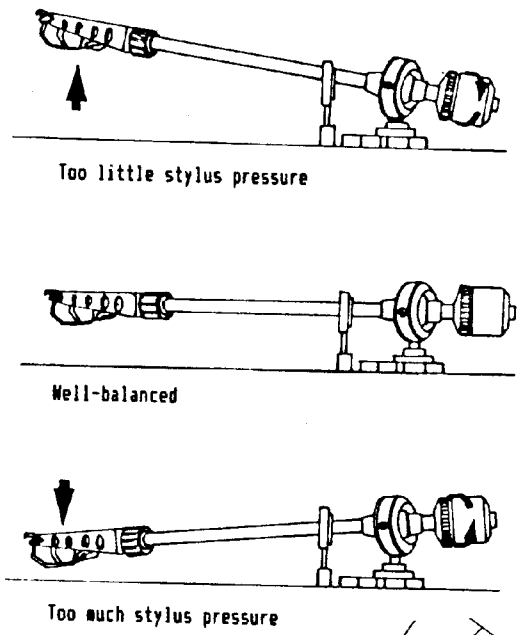

Fig. 3
- 4) Adjust for balance by turning the counterweight either clockwise or counterclockwise (Fig. 3).